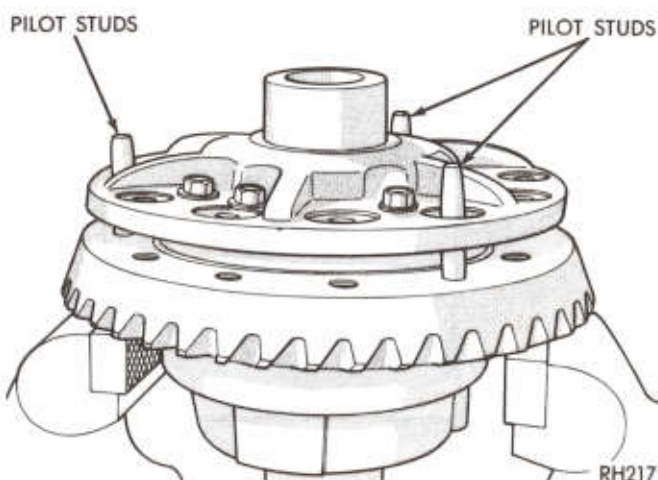

Fig. 20—Using Pilot Studs to Locate Case to Heated Ring Gear
(6) Heat the ring gear with a heat lamp or by immersing the gear in a hot fluid (water or oil). The temperature should not exceed 300 degrees Fahrenheit (148 Celsius). **Do not use a torch.** It is advantageous to use pilot studs equally spaced in three positions to align the gear to the case (Fig. 20).
(7) Using new drive gear screws (left hand threads) insert through case flange and into drive gear.
(8) Position unit between brass jaws of a vise and alternately tighten each screw to 70 ft. lbs. (95 N·m).
(9) Position each differential bearing cone on hub of differential case (taper away from drive gear) and carefully install bearing cones. On 8-3/8 inch axles use Tool C-4340 and C-4171 handle. On 9-1/4 inch axles use Tool C-4213 and C-4171 handle. An arbor